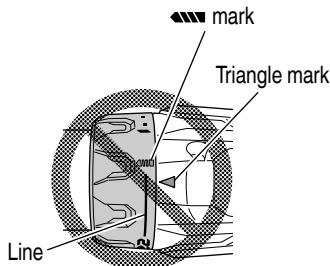

Fig. 12
- Do not use with the clutch dial set at the line between the number "22" and the drill mark "■■■". Doing so may cause damage (See Fig. 12).